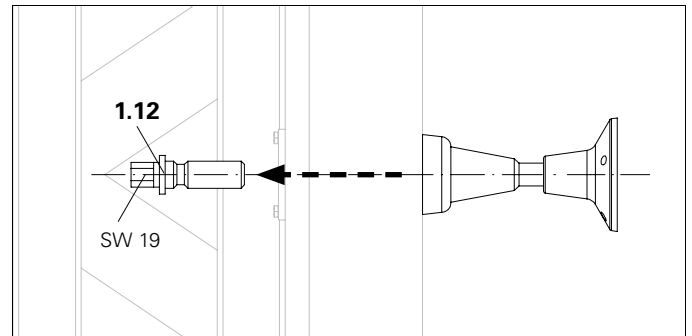

Fig. B1.04
2. Remove formwork. (Fig. B1.04)